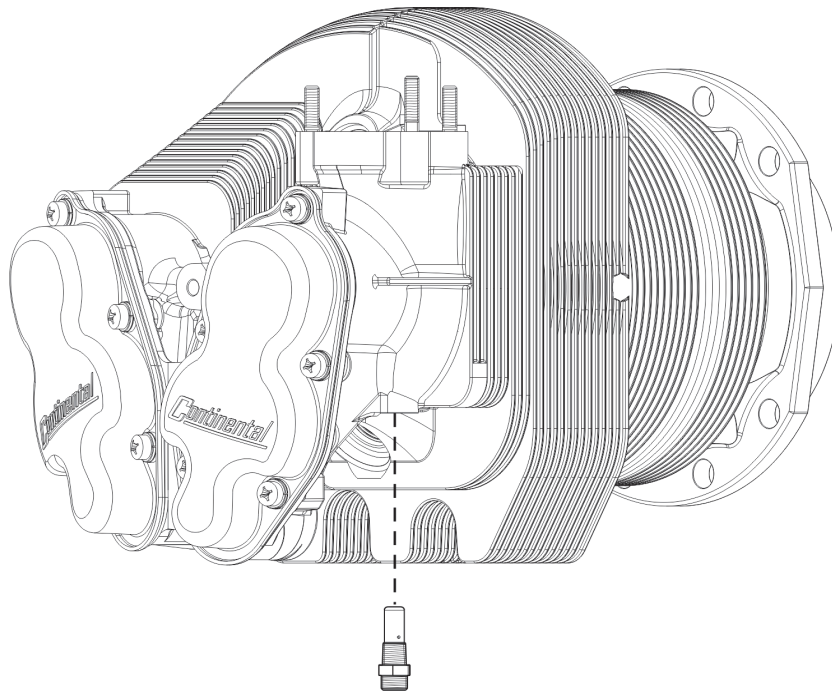
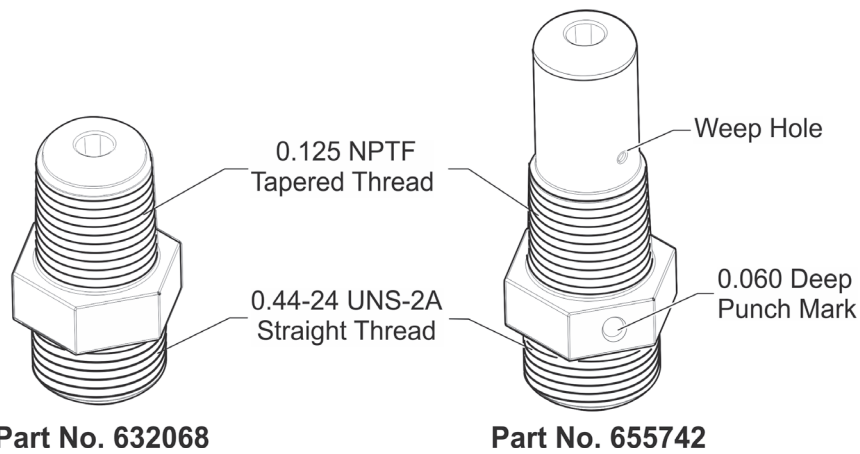

Figure 5. Cylinder Drain Connector, location
Figure 6. Cylinder Drain Connector, P/N 632068 superseded by 655742
1. Inspect cylinder (see Figure 5) for the current production cylinder drain connector (P/N 655742). The cylinder drain connector can be identified by a 0.060-inch deep punch mark in the wrenching flat (see Figure 6 on page 6, P/N 655742).